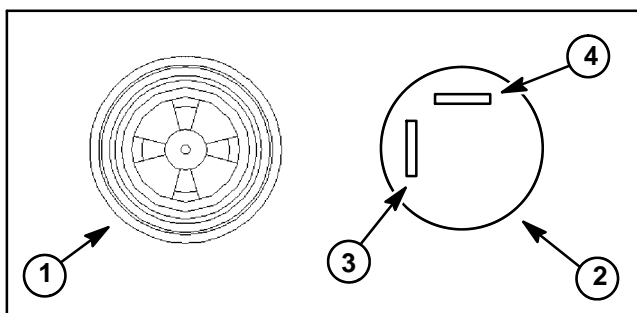

Figure 38
4. Correctly connect 12VDC source to the alarm terminals (Fig. 38).